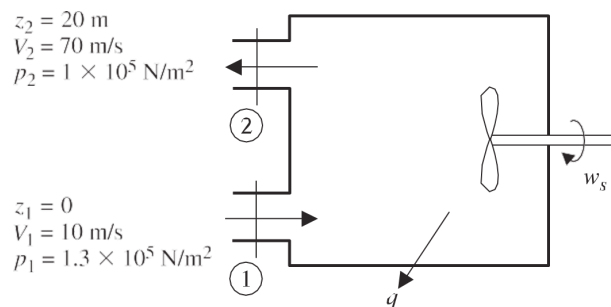

Figure P2.15
- 2.15** The control volume shown in Figure P2.15 has steady, incompressible flow and all properties are uniform at the inlet and outlet. For $u_1 = 1.256$ MJ/kg and $u_2 = 1.340$ MJ/kg and $\rho = 10$ kg/m³, calculate the work if there is a heat output of 0.35 MJ/kg.